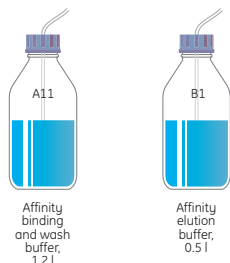

Fig 1. Buffer inlets and maximum volumes needed, see ÄKTA 3D plus Kit User Manual for details.
- Place buffer inlets as shown in Figure 1 and make sure your system is prepared as described in the "System preparations" cue card.